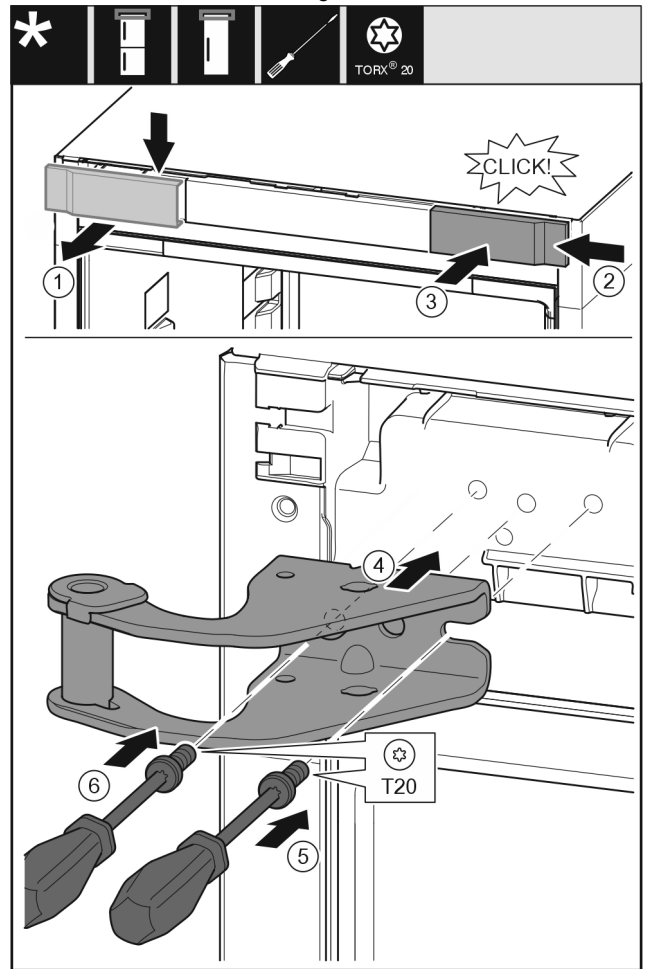

Fig. 11
- ▶ Take off the cover to the front from above. Fig. 11 (1)
- ▶ Rotate the cover 180° and clip onto the other side from the right. Fig. 11 (2)
- ▶ Latch the cover into place. Fig. 11 (3)
- ▶ Position the upper bearing bracket. *Fig. 11 (4)*
- ▶ Insert the screw with a T20 screwdriver and tighten it. *Fig. 11 (5)*
- ▶ Insert the screw with a T20 screwdriver and tighten it. *Fig. 11 (6)*